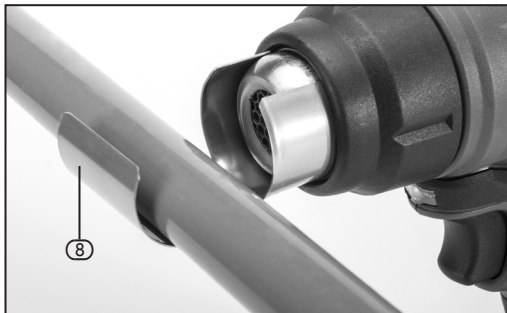

FIG. 5
6.5 HEATING AND SHAPING PLASTIC TUBING – FIG.5